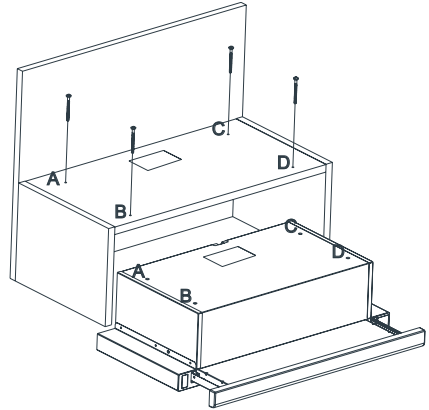

Figure 4
- When the slider set moves, the front panel shall not rub on the cabinet door (Figure 4)